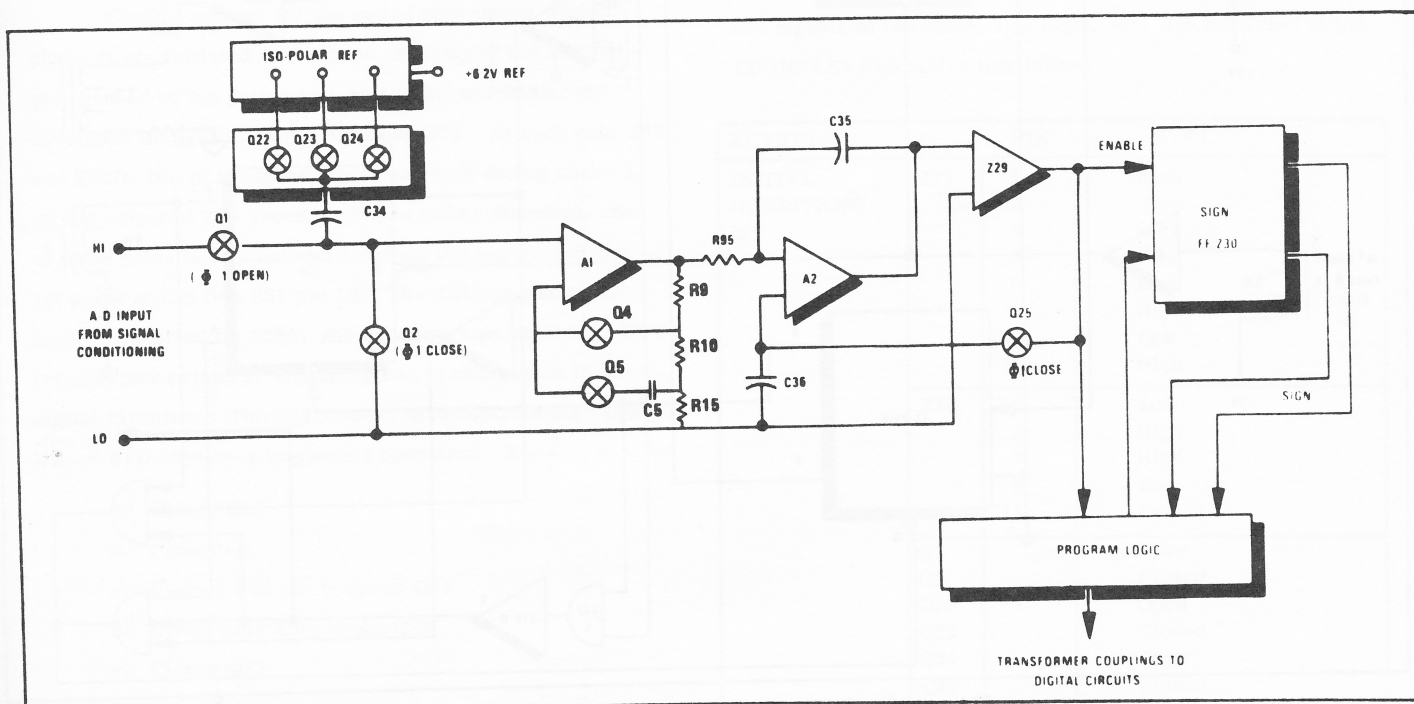
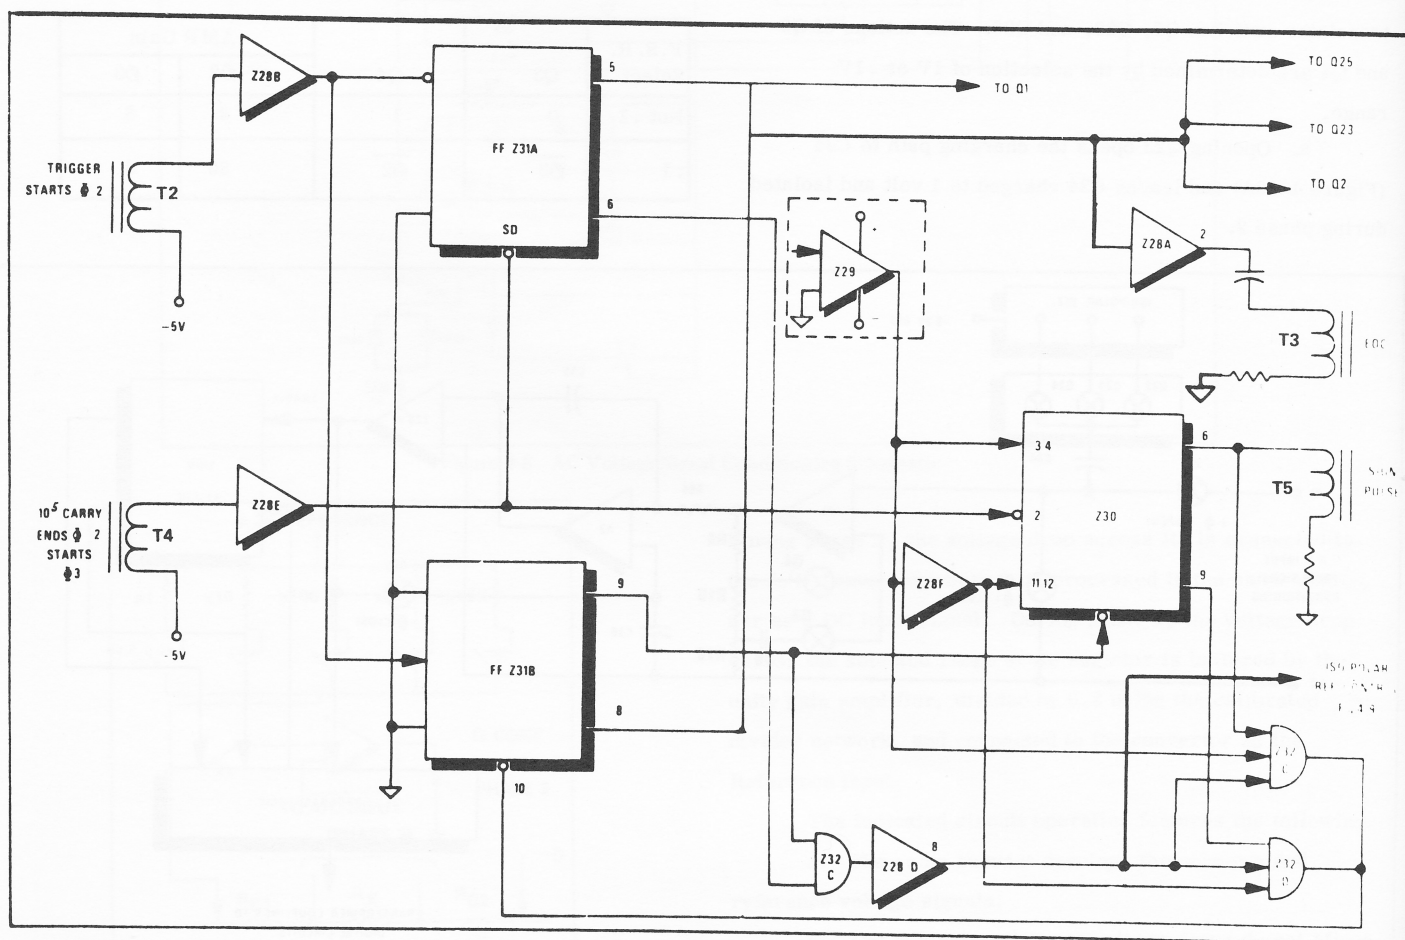
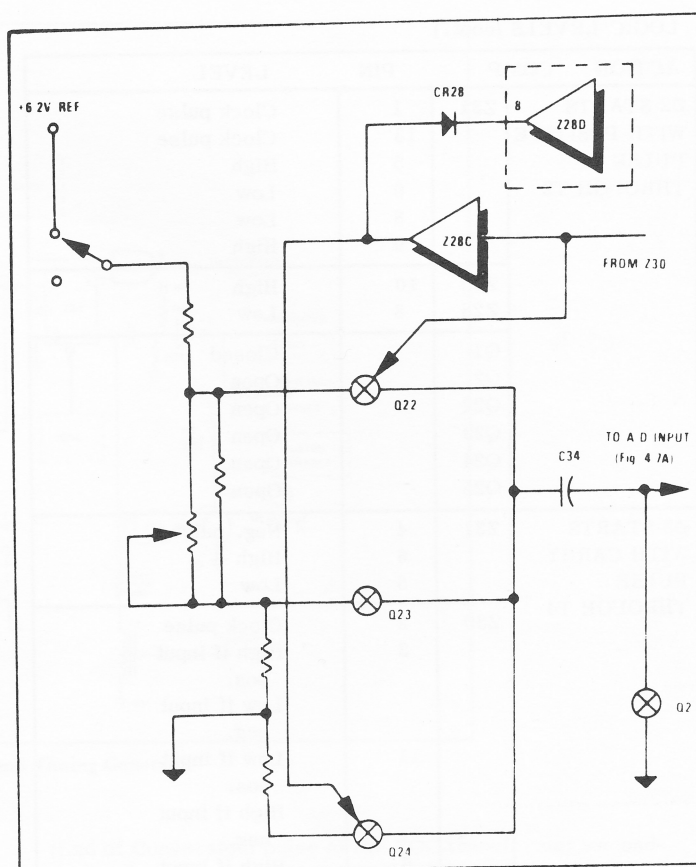

Figure 4-10A Tri-Phasic A/D Converter Simplified Schematic
Figure 4-10B Tri-Phasic A/D Converter Control Simplified Schematic
Figure 4-11 ISO-Polar Reference Switching Simplified Schematic
Operation of the Tri-Phasic A/D Converter in its 3 phases is described with the aid of simplified schematics of Figure 4-10A and Figure 4-10B, derived from the complete reference drawing in Section 6.
Referring to Figure 4-10A, during phase 1 switch Q1 is open, switches Q2, Q23, and Q25 are closed. Opening of Q1 removes the Signal Conditioned input from the A/D preamplifier A1. Closing of Q2 clamps the input to A1, and, with Q23, closes a path whereby C34 is charged from the ISO-Polar reference to 1 volt. Closing of Q25 permits capacitor C36 to store a charge compensating for the accumulated non-zero offset in A1, A2, and Z29.
Appearance of the trigger pulse in the secondary of transformer T2 (Figure 4-10B) signals the start of phase 2, and initiates the control actions by flip flop Z31A. The trigger causes pin 5 to go high and consequently Q1 to close. The output Z31B pin 8 goes low, and consequently opens transistor switches Q2, Q23, and Q25. The actions of Q3 and Q4 are determined by the selection of 1V or .1V range.
a. Opening Q23 opens the charging path to C34 (Figure 4-10A) and leaves C34 charged to 1 volt and isolated during phase 2.
If the input signal had been positive, Z30A pin 11 would have been low and the clocking pulse would not have changed the high level at pin 6, thus producing no pulse across the primary of "sign" pulse transformer L5. If the input signal had been negative, Z30A pin 11 would have been high and the clocking pulse would cause Z30A pin 6 to go low producing a pulse across the transformer T5 primary and transmitting a negative sign indication to the Digital circuitry. The voltage level developed by flip flop Z30 at pin 9 controls the sign of the reference signal to be switched to the amplifier input at the start of phase 3. (Refer to Figure 4-11 in conjunction with Figure 4-10B.)